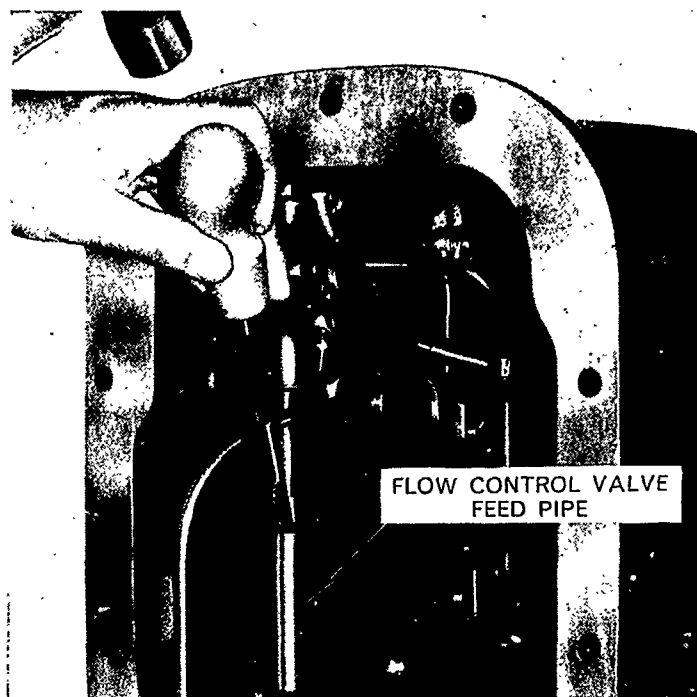

Figure 43
5. With a screwdriver, remove the lock ring retaining the lower feed pipe and push the pipe through the bottom of the rear axle centre housing, using a screwdriver on the groove in the pipe, Figure 43.